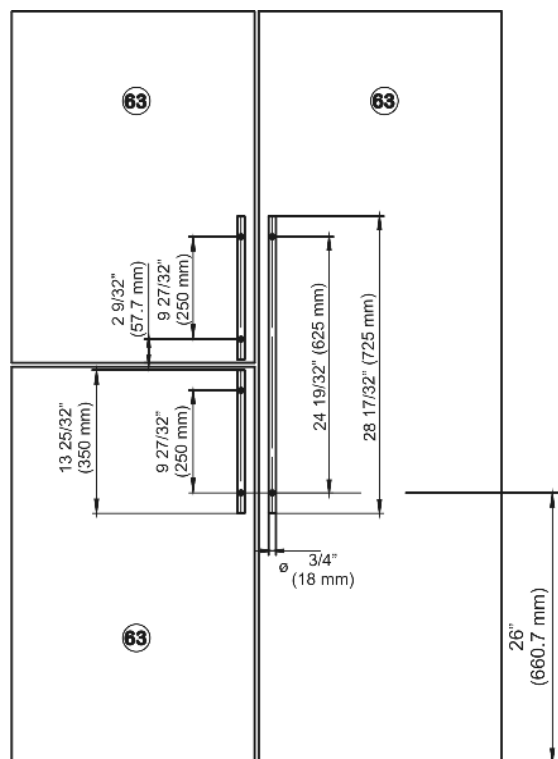

*Fig. 70*
- ▶ Push handles *Fig. 70 (60)* into the openings in the door and screw on *Fig. 70 (61)*. Press cover trim *Fig. 70 (62)* into position.